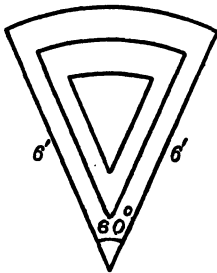

FIG. 29. FLOWER BED
2. A flower bed is in the form of a sector of a circle. The radius of the circle is 6 ft. and the angle of the sector is 60° , Fig. 29.